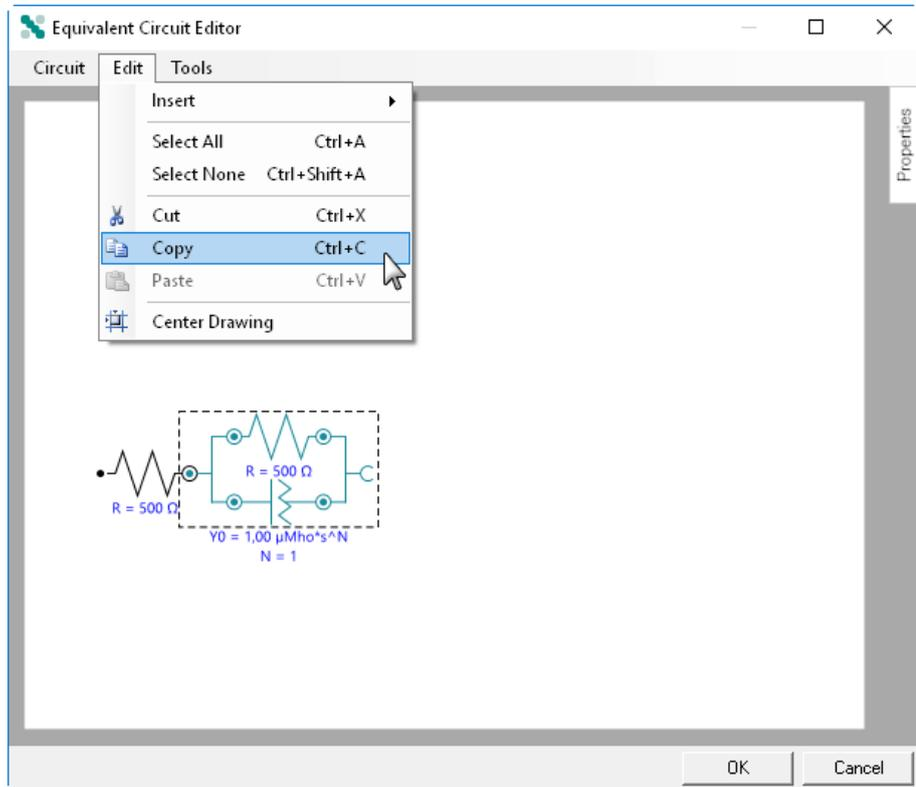

Figure 486 Selected circuit elements can be copied/pasted directly in the editor
- Copy/Cut and Paste element(s): select one or more elements in the equivalent editor by dragging a box around the circuit element and selecting the *Copy* or *Cut* option from the **Edit** menu (or the right-click menu or the **[CTRL] + [C]** and **[CTRL] + [X]** keyboard shortcuts) to copy them to the clipboard (see Figure 486, page 424). The copied elements can then be pasted into the equivalent circuit editor, using the *Paste* option from the **Edit** menu (or the right-click menu or the **[CTRL] + [V]** keyboard shortcut), as shown in Figure 7.9.2.6.